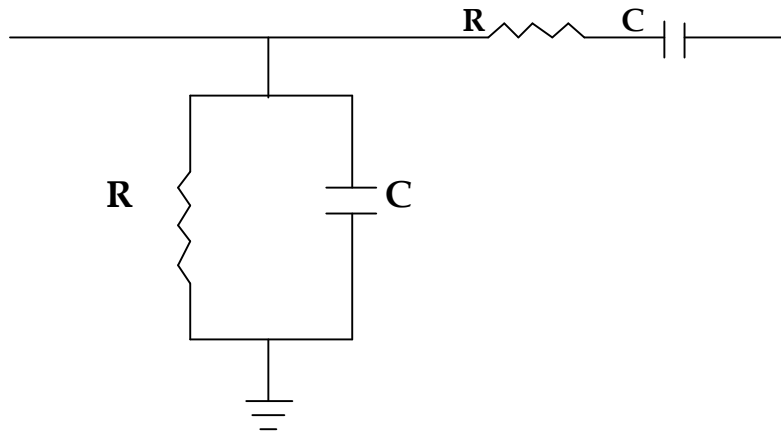

Figure 1: Wien Bridge Oscillator Using OP-AMP
Wein bridge oscillator in which the wein bridge circuit is connected between the amplifiers input terminals and output terminal. The bridge has a series RC network in one arm and a parallel RC network in the adjoining arm. In the remaining two arms of the bridge resistors R_1 and R_f are connected. See the practical figure 1.
1. Make the connections on OPT-01 board as shown in practical figure 1 as per your design.